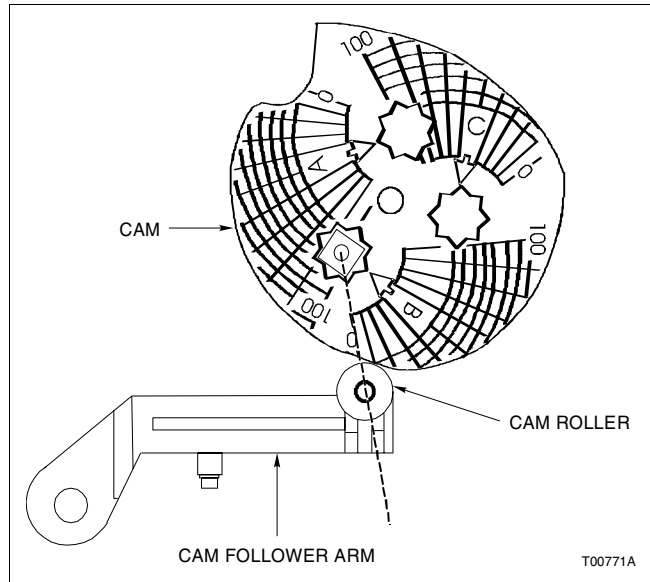

Figure 3-8. Cam Roller Alignment
- Adjust the connecting linkage so that the zero radial line on the cam intersects the center of the cam roller when the actuator is at its zero position (Fig. 3-8).